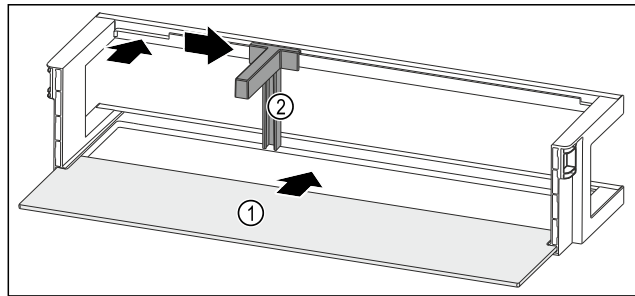

Fig. 202 Door rack with shelf
- ▶ Push the shelf Fig. 202 (1) into the side recesses.
- ▶ Insert the bottle holder Fig. 202 (2) in the recess.
- ▶ Push the bottle holder Fig. 202 (2) to the desired position to the side.